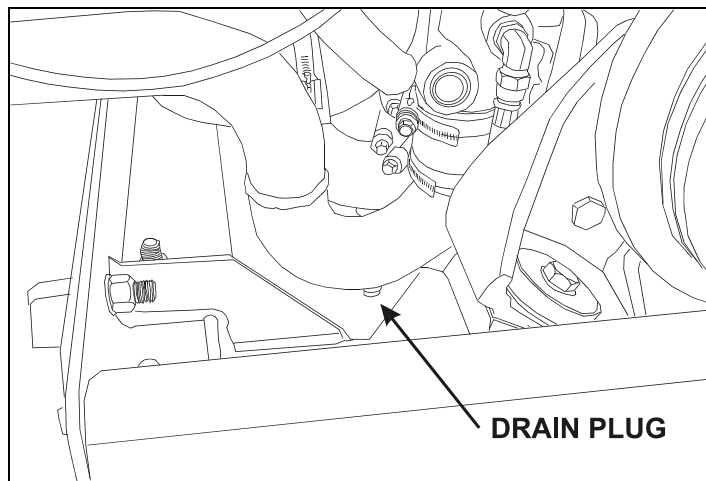

FIGURE 3: WATER PUMP DRAIN PLUG
4. Remove the drain plug then drain cooling system (Refer to figure 3).